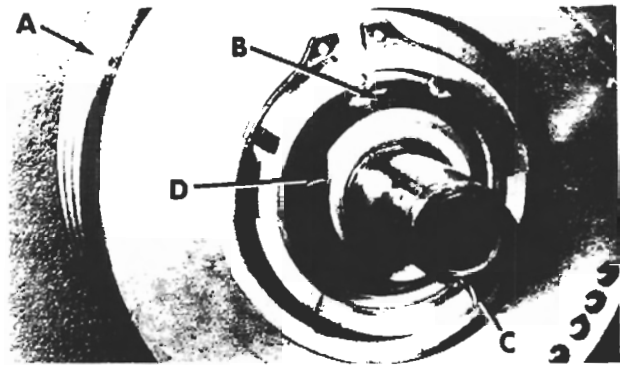

Figure 35
25. Install drive gear housing pulley assembly (A fig. 35) and tighten collar (D) against bearing.
26. Insert brass plug and set screw (B) in collar, tighten securely.
27. Install key (C).